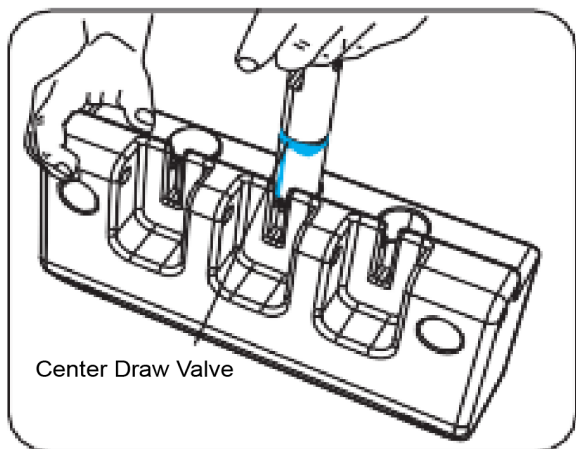

Figure 5-4
- ✖ When reassembling, the Center draw valve should be placed as shown in Figure 5-4.